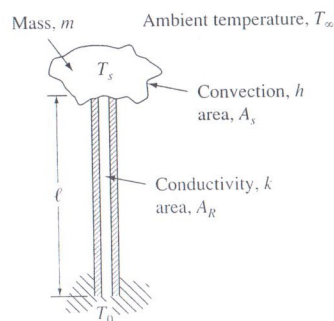

Figure P6.16 Suspended-mass thermal system.
- 6.16 Shown in Figure P6.16 is a mass suspended at the end of a rod. The mass is exposed to ambient temperature and experiences heat transfer from the rod. The rod is insulated, but is exposed to a constant temperature source  $T_0$  at the other end. Write the modeling equations for this system, and derive the transfer function for the temperature of the mass as a function of the ambient temperature and the temperature of the source. State the expressions for the time constant and steady-state temperature.